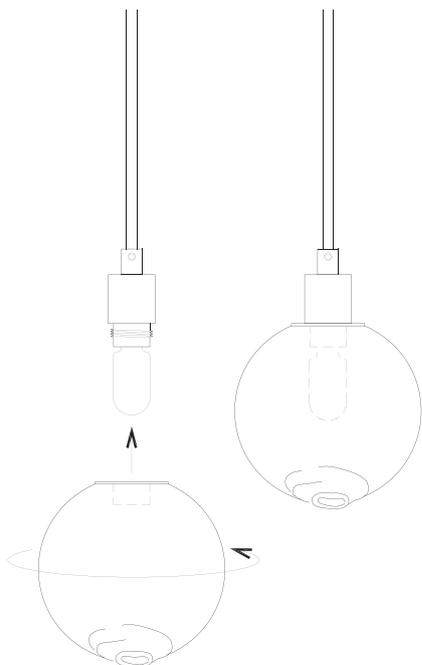

Figure 8. Install glass spheres by threading onto brass sockets
- 11 Unwrap the protective packaging from each of the 8 individual pendants. Install a light bulb in each socket (provided - 7W Max). Unwrap and lay out the 8 individual glass spheres. Carefully thread a glass sphere onto each socket (Figure 8). Thread the glass spheres on just until they are visually tight - do not overtighten.